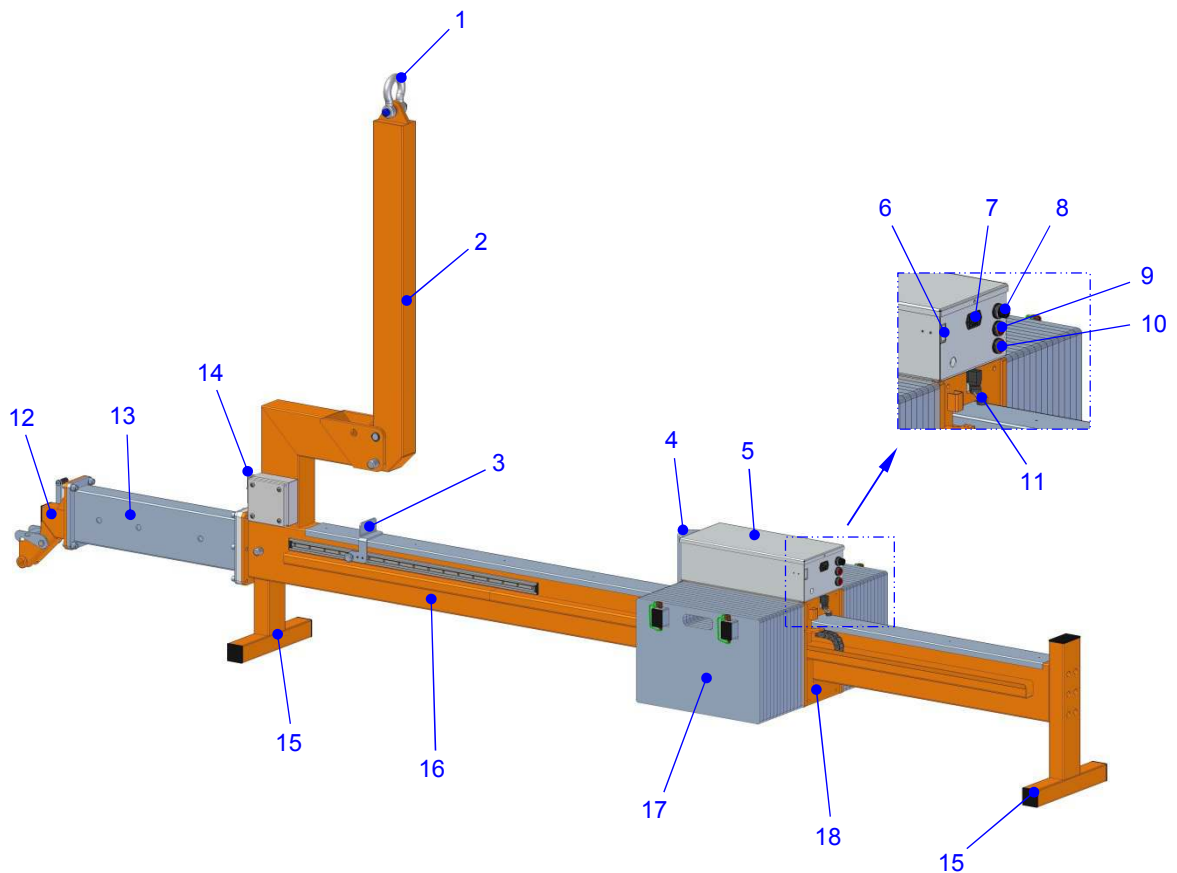

Fig. 1: Counterweight balancer GGA-E-FB 800/26/2,0/4,8 B24
The functional main assemblies of the counterweight balancer are (s. fig. 1):
The charge indicator is arranged on the counterweight balancer as per fig. 1.
There are two control buttons on the travelling cage of the counterweight balancer (s. fig. 1, pos. 9 and 10). When the counterweight balancer is switched on, the travelling cage can be moved "forwards" and/or "backwards" by pressing these buttons, if no OKTOPUS® is connected to the counterweight balancer. This is helpful in order to move the travelling cage into the transport position, for example (s. point 2.7).